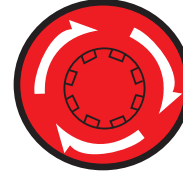

Figure 58. Auto Off/Reset Manual Switch (OFF)
1. In the event of an emergency, push the **Emergency Stop Pushbutton Switch** (Figure 58) to shutdown the generator.